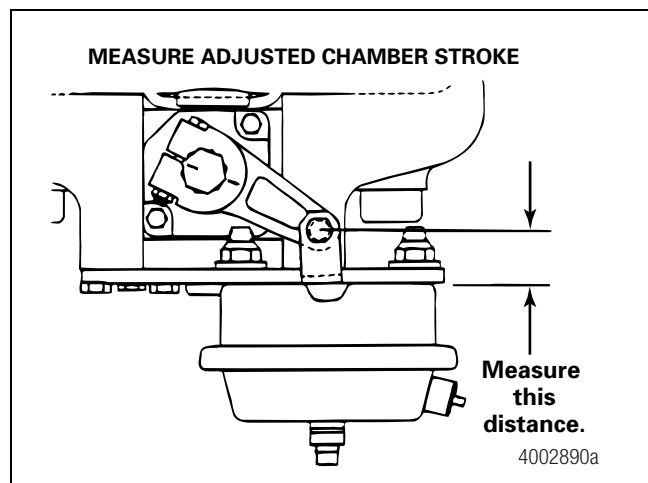

Figure 7.21
3. Measure the distance from the bottom of the air chamber to the center of the clevis pin while the brakes are released. Figure 7.21.